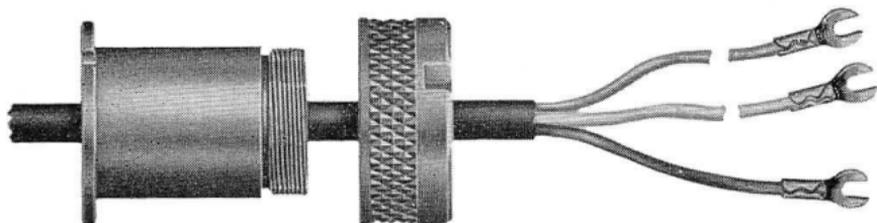

Fig. 4—Sleeve-type Bushing
2.04 Explosion-proof Handsets: F6A and F6B handsets are listed by the Underwriters' Laboratories, Inc. for use with telephone sets for hazardous locations. The handset cord is attached to the telephone set by means of a bushing that is designed to confine any possible burning gases to the interior of the telephone set. The F6A handset is equipped with a sleeve-type bushing and the F6B with a threaded type. At least five threads of the threaded type must engage the threads of the housing. These two types of bushings, shown in Figs. 4 and 5, are not interchangeable. If any part of an F6A or F6B handset, except the transmitter cap or receiver cap, requires replacement, **replace the entire handset assembly.**